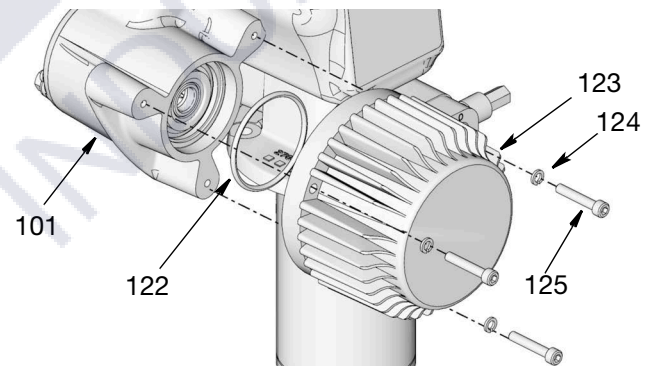

FIG. 58
9. Remove screws (125) and washers (124) holding motor (123) to gear box housing (101). Remove motor. Verify o-ring (122) was removed with motor. (FIG. 58)